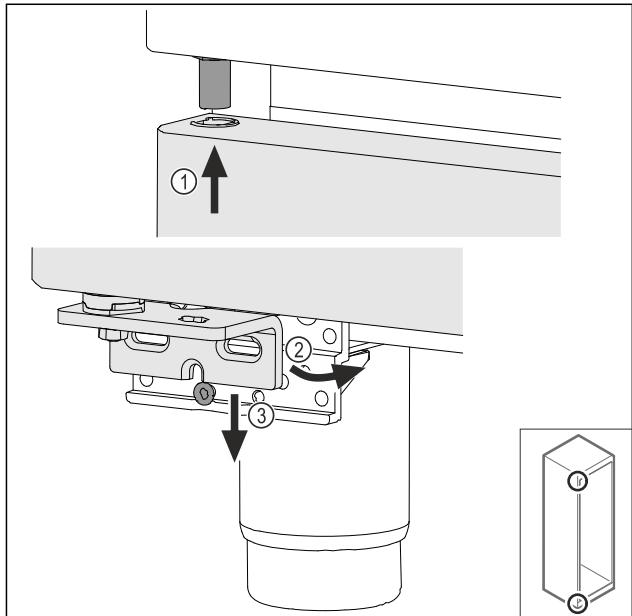

Fig. 66
- ▶ Feed in the door slightly tipped at the top *Fig. 66 (1)*, align the door straight *Fig. 66 (2)* and fit the swap bearing blow screw *Fig. 66 (3)* at the bottom.